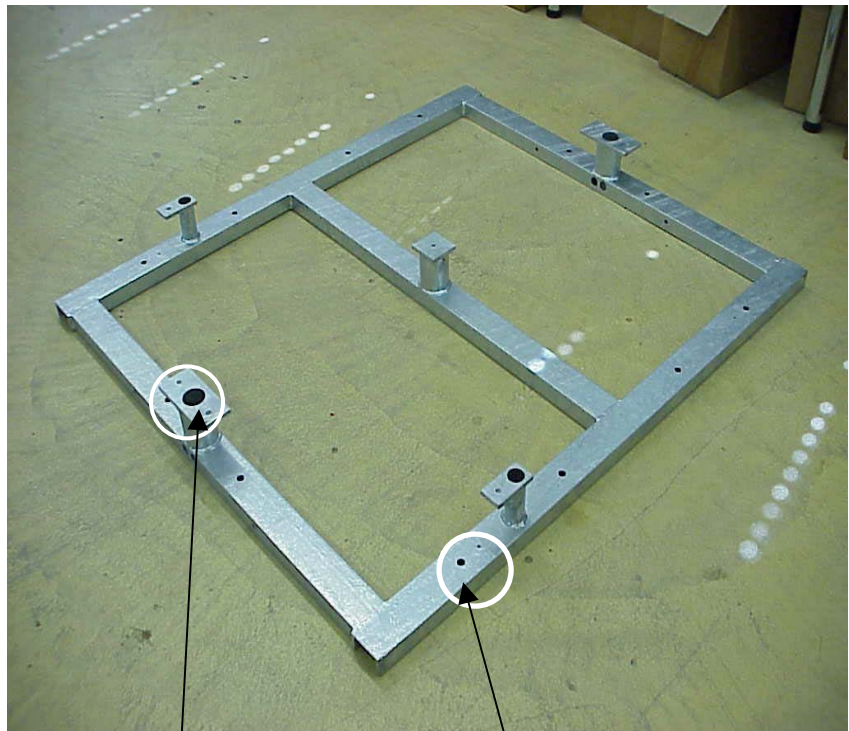

Fig.4
1. Mark the dimensions onto foundation acc. to fig.4